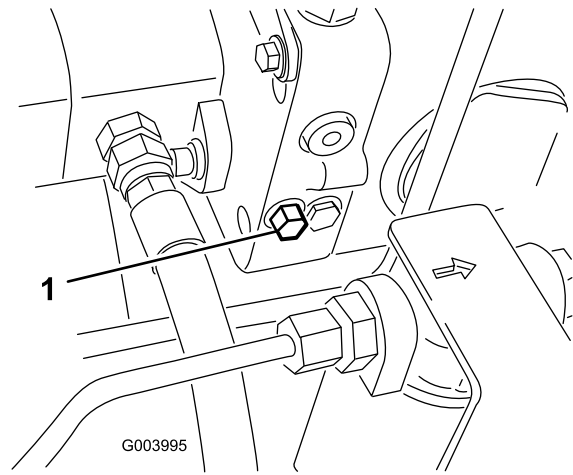

Figure 32
- The bypass valve is located on the left side of the hydrostat (Figure 32). Rotate the bolt 1-1/2 turns to open and allow oil to bypass internally. Because fluid is bypassed, the machine can be moved slowly without damaging the transmission.